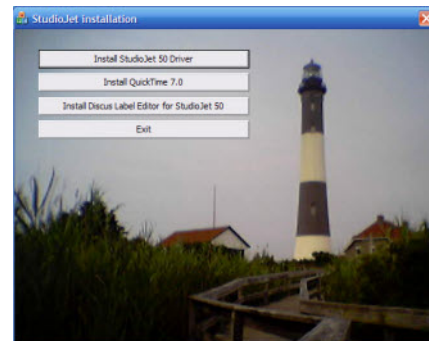

Figure 2.5
1. Insert the StudioJet™ driver disc into the CD drive of your computer. Windows autorun should initiate the install program after a few seconds (Figure 2.5). **Do not start the install. Simply move on to step 2.**